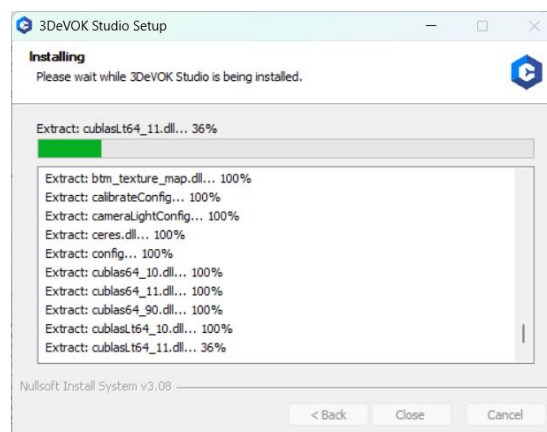

Figure 4-5 Software Installation
3. The software will automatically begin installation. Wait for the installation to complete, then click "Close", as shown in Figure 4-5.